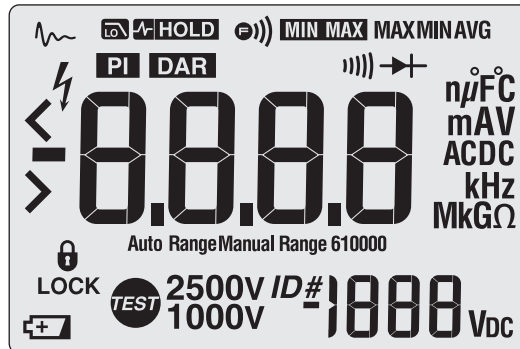

Figure 3. LCD Display Test
3. While continuing to depress **[HOLD]**, verify that the lit display segments match those shown in Figure 3.